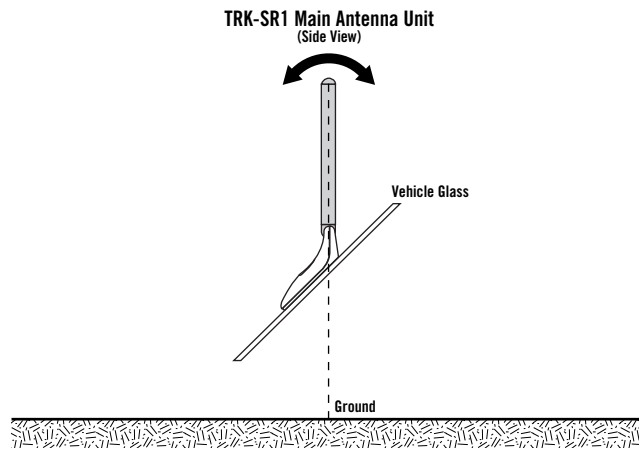

Figure 12. Adjusting the antenna mast so that it's perpendicular to the ground.
8. Adjust the antenna mast so it is completely vertical (i.e., perpendicular) to the ground, as shown in Figure 12.
- For best reception, always position the antenna mast so that it is completely vertical to the ground (see Figure 12 on page 9).